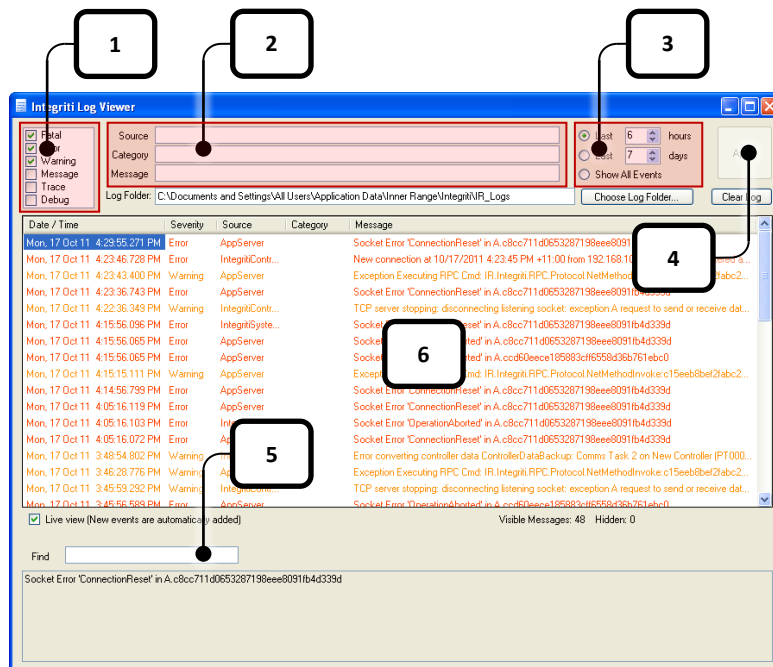

Figure 116
1. Ensure the Error checkbox is ticked. Un-tick the other checkboxes. (**Figure 116**)